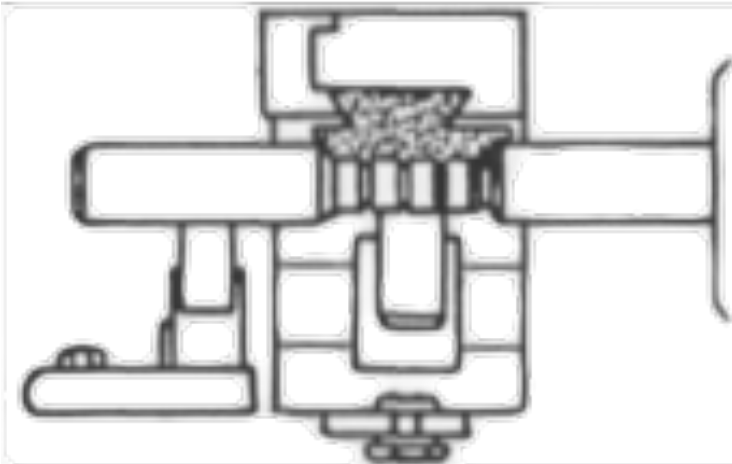

Figure 37
2. The rollers should be positioned to a surface that does not get shaved (Figure 37).